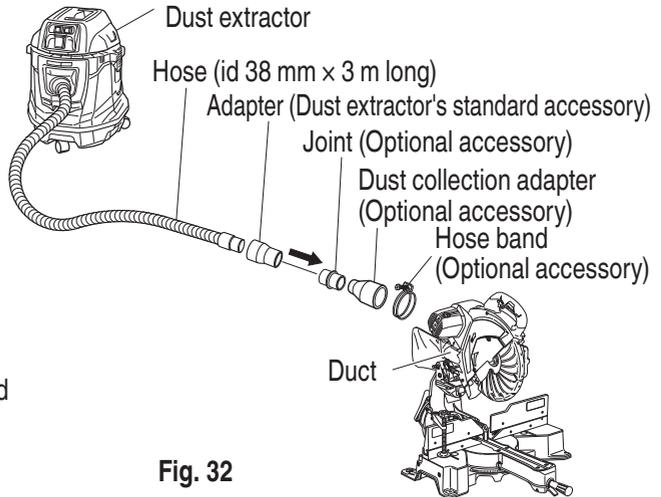

Fig. 32
21. Connecting the dust extractor (Sold separately) (Fig. 32)
Connection is done by pressing in the direction of the arrow. (Fig. 32)
After long-term use, the blade slot in the guard may widen and require replacement. If the blade slot should widen, replace the guard with a new one (**Fig. 32 on page 56**). After replacing, make a groove on it. Refer to “PRIOR TO CUTTING 1. Cutting a groove on the guard” on page 44.